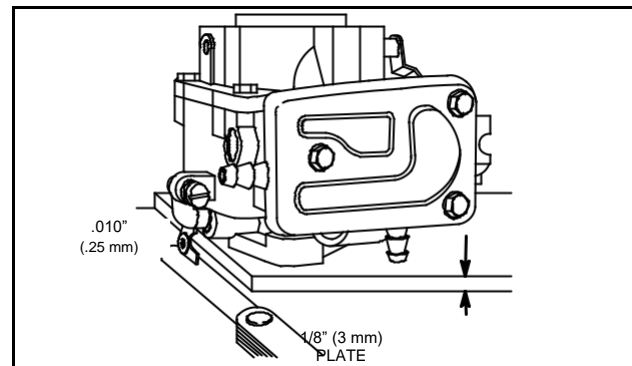

Fig. 14 – Check Throttle Shaft Wear
1. Lay carburetor on flat surface and check throttle and choke shaft clearance as shown in Fig. 14.